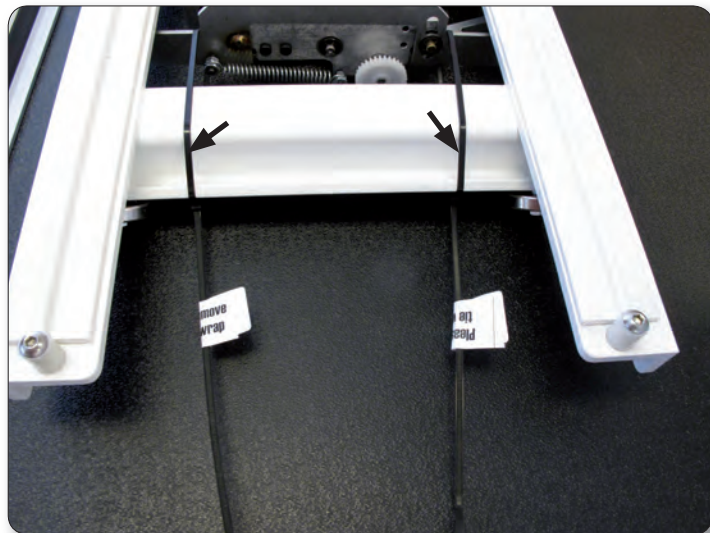

Figure 2
2. Remove the blue 12-foot rack (A) and the HQ Pro-Stitcher carriage (E) from the box. Cut the cable ties from the front of the carriage (Figure 2).